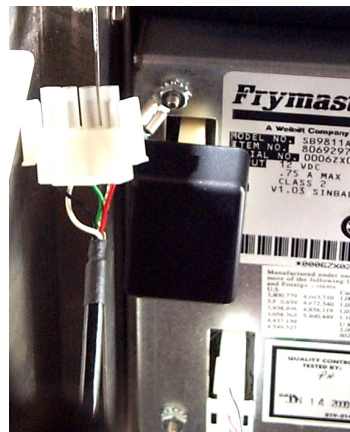

Figure 3: Load cell simulator plugged into load cell port of computer.
- Plug load cell simulator into computer. Use adapter for larger Sinbad 1 units. See Fig. 3,4. The computer sees the simulator as a properly functioning load cell by the computer.